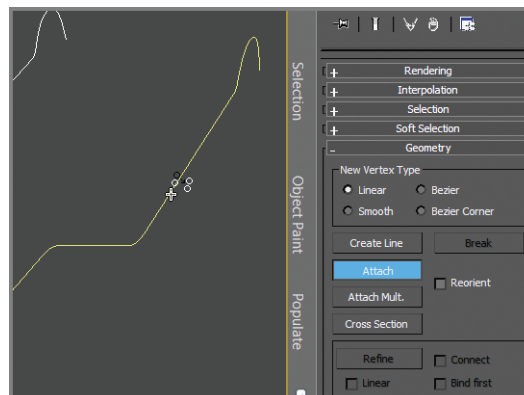

FIGURE 4.23 Attach both sides of the chair frame.
18. With either spline selected, go to the Geometry rollout, click the Attach button, and then click on the other spline, as shown in Figure 4.23.